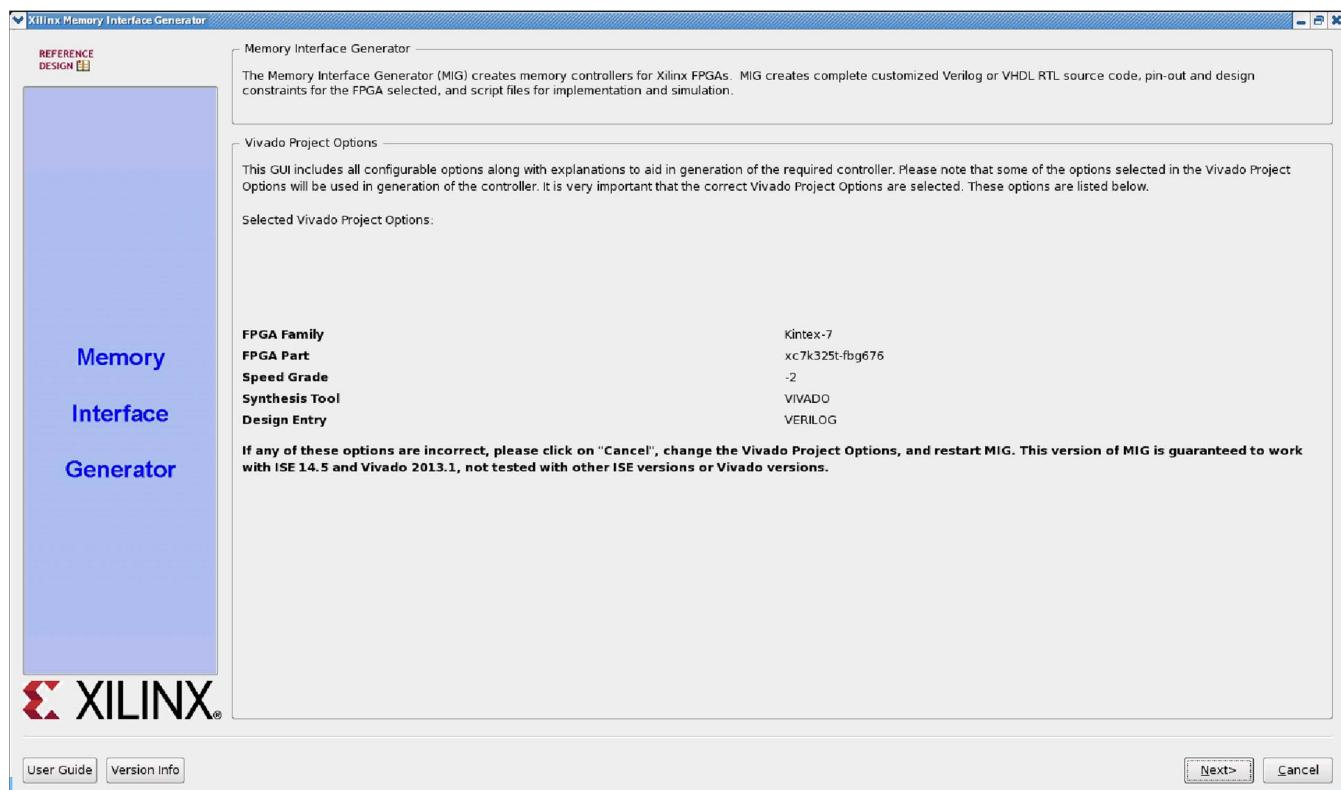

Figure 4-1: 7 Series FPGA Memory Interface Generator Front Page
1. The options screen in the Vivado tool displays the details of the selected Vivado tool options that are selected before invoking the MIG tool (Figure 4-1).